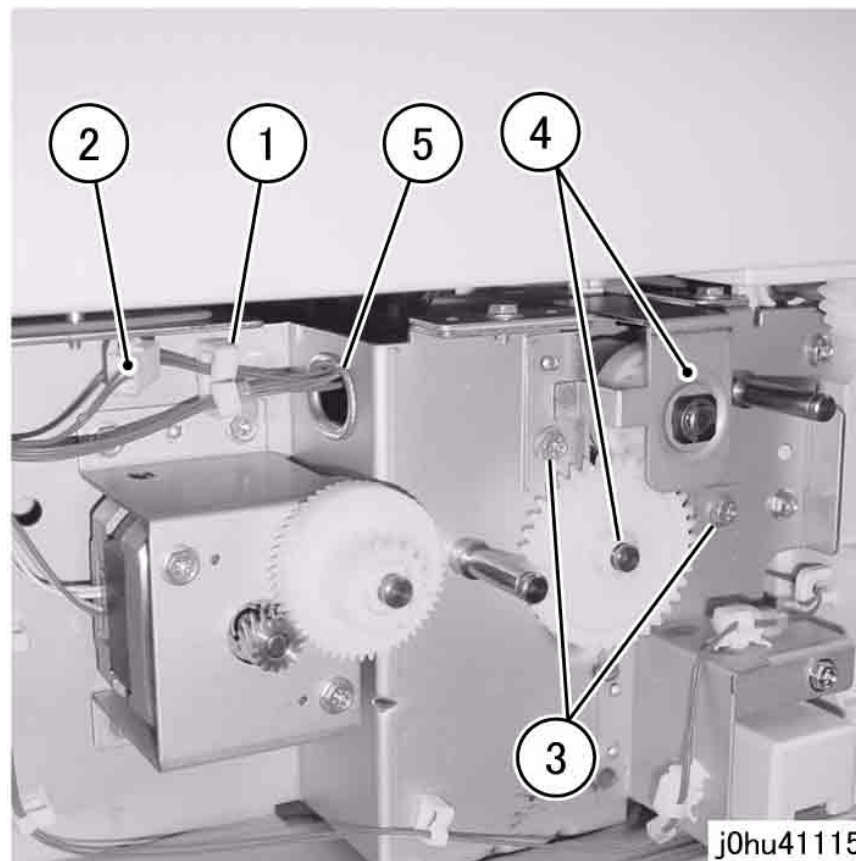

Figure 2 Remove Tray 2 Feed Clutch
3. Remove the Tray 2 Feed Clutch (Figure 2).